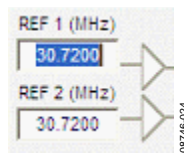
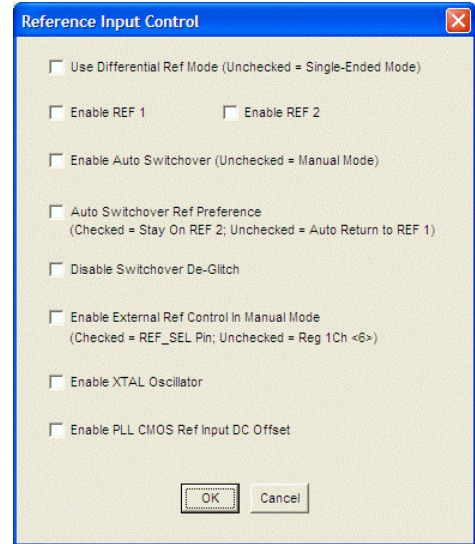

Figure 4. Buffer Symbol
Figure 5. Reference Input Control Window
3. Click the triangular buffer symbol immediately to the right of the input reference frequency (see Figure 4) text boxes to load the **Reference Input Control** window shown in Figure 5. Turn the REF1 reference input buffer on by selecting the **Enable REF 1** check box, and then click **OK**.